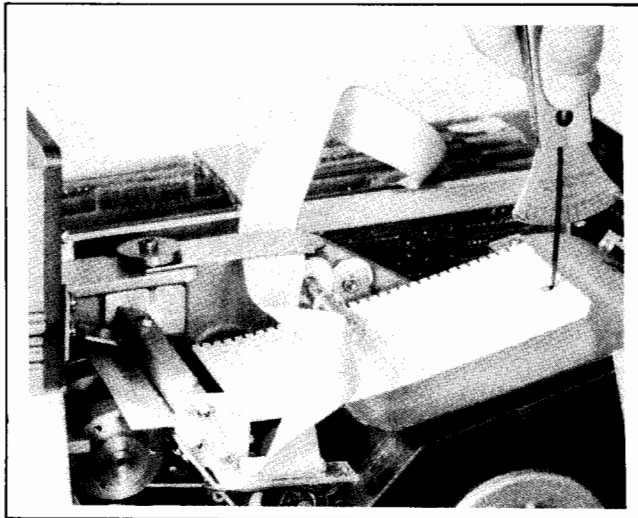

Figure 5-11. Read Head Pressure Plate Adjustment
a. Loosen read head mounting screws. See Figure 5-11.
- b. Slide data processing card, with hole at one end, under read head pressure plate. See Figure 5-11.
- e. Loosen screw (A). Move pressure plate up and down. Check tension to ensure 50 to 100 gram reading. See Figure 5-11.